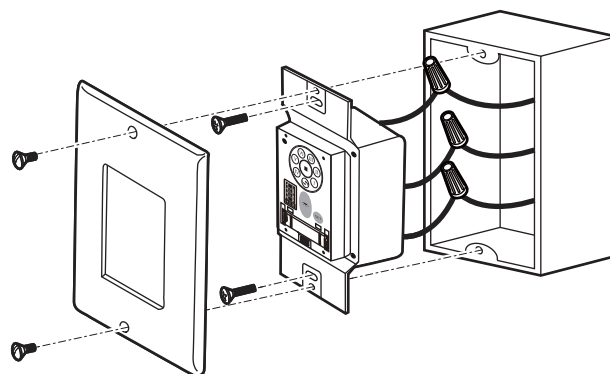

Figure 12
1. Carefully tuck the wire connections inside the junction box. Secure the wall control with the two wall switch screws provided. (Fig. 12)